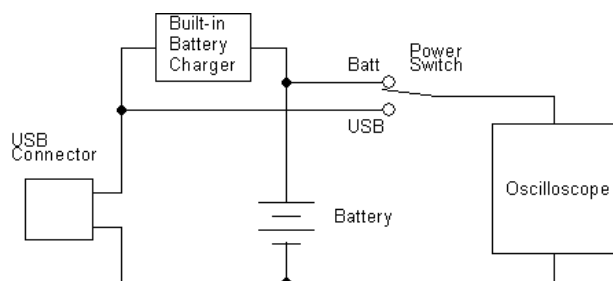

Fig 3
oscilloscope. When USB is not connected it acts as a power on/off switch for battery. Please see Fig. 3 below for switch connections.
To turn on the device place the Power Switch to “BATT” position. Placing the switch at “USB” position will turn the device off if USB is not connected. If USB is connected this will make the device powered from USB. Please see drawing of Fig. 3 for details.
- 5) Press the [ SEC/DIV ] button, and set the Time-base to 0.2ms. Waveform shown in Fig. 3 should be seen. (If you find the display is unstable, you can press [LEVEL] and change Trigger Level so that a stable display is obtained.)